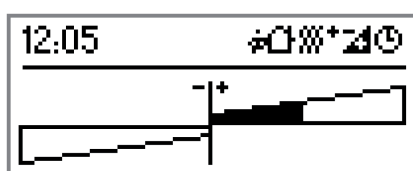

Figure 64: Example of a 2-area display with basic setpoint shifting as a bar graph
- i** In the display function "Setpoint shift as bar graph" (Figure 64) it is not possible to configure any supplementary texts.
With relative setpoint presetting, the push button sensor allows step-by-step shifting of the setpoint temperature within defined limits. This setpoint shift can be performed either using the display buttons (see page 18-19) or using controller extensions in the positive (+) or also in the negative (-) direction. Whether a basic setpoint shift has been performed (i.e. the shift is not equal to "0") in the 2-area display is indicated using the  icon. Optionally it is possible to display the setpoint shift in the form of a bar graph (Figure 64). In this case the bar graph accounts for the entire menu area, which means that other display functions can no longer be displayed in this display area.